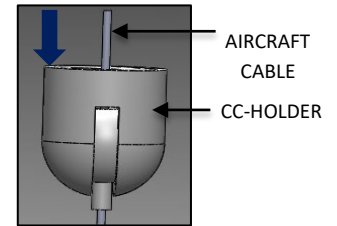

FIG. 16 - SS ROPE CABLE
- Feed the AIRCRAFT CABLE through the CC-HOLDER. Adjust the AIRCRAFT CABLE to the desired length and place it aside as shown in FIG. 16.